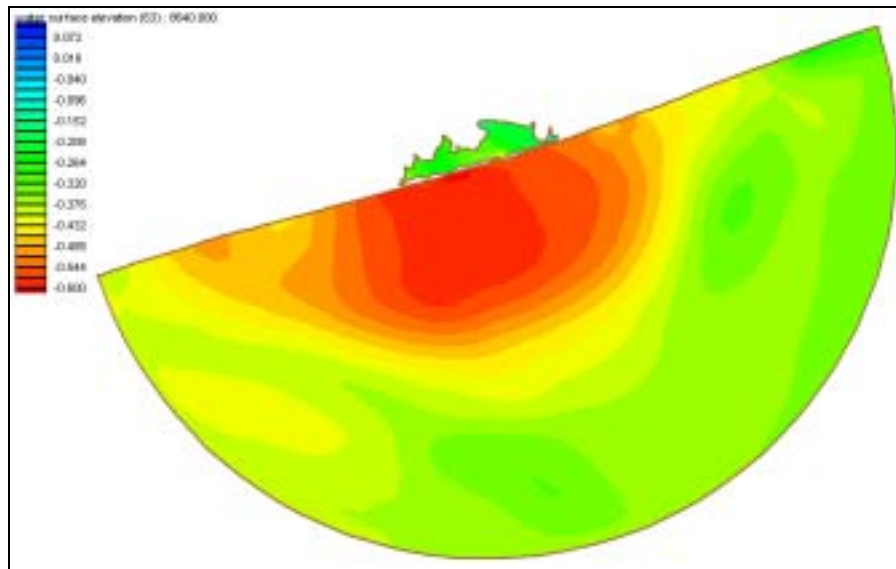

Figure 13-6 ADCIRC output from the "fort.63" file.
9. Click *OK* time to exit the dialog box, and *SMS* will redraw the screen similar to Figure 13-6. Note (It will look about the same for the *Time step* 480.)